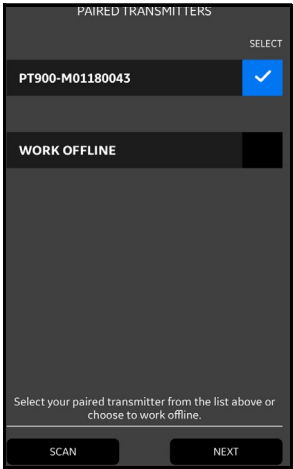

Figure 70: Paired Transmitters List
12. Click the **BACK** button on the tablet to return to the PT900 APP main menu. Then, select your PT900 transmitter in the **TRANSMITTERS PAIRED** list and click **NEXT** to open the *Main Menu*. For example, the **PT900-M09160025** transmitter is selected from the list in *Figure 70* below.
- Note:** *If desired, you may simulate the APP operation without connecting to the transmitter. To do so, click the **WORK OFFLINE** option in Figure 70 above.*